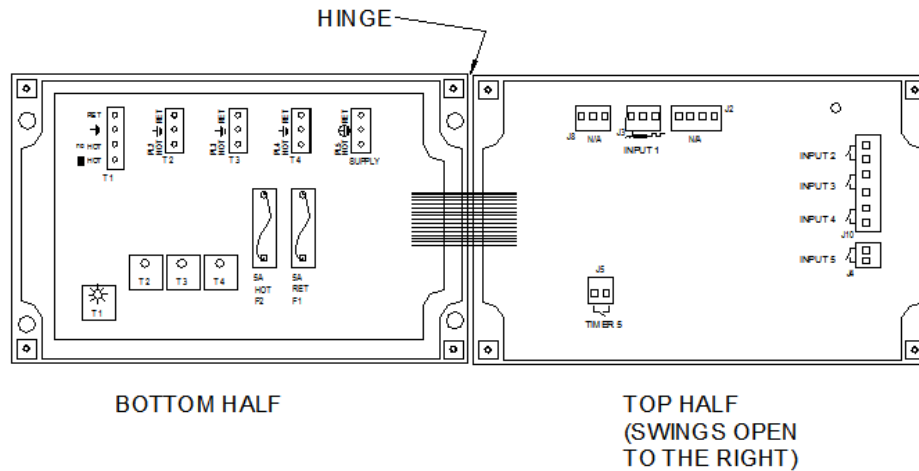

Fig. 1
Loosen the four (4) screws on the front of the controller and carefully swing the top of the case to the right (Fig. 1).